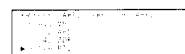

Fig. 27.
- 4 Using Δ or ∇ , select the programme position you want to block and press OK. The CH and LABEL of the selected programme number change colour indicating that this programme is now blocked. (See Fig. 27.)